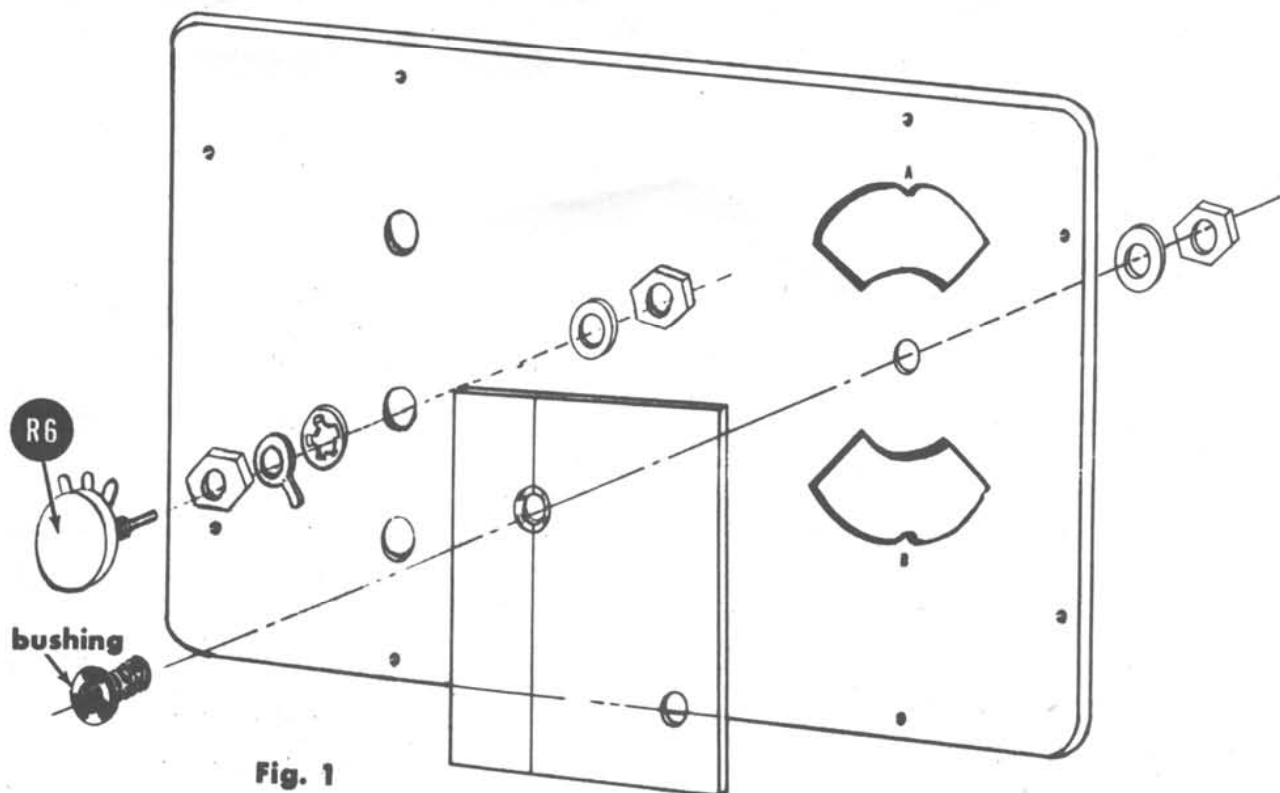

Fig. 1
- () Fig. 1. Mount the plexiglass window to the panel with the bushing, 1-3/8 flat washer, and 1-3/8 hex nut. Note that the hole in the window used for mounting is counterbored to accept the bushing and that the panel lamp hole in the window is at the lower right in the rear view. Note also that there is a scribed hairline on the back surface of the window which passes through the center of the mounting hole. Before tightening the nut, line up the window so that both indicating points A & B on the panel lie directly over the hairline.
- () Fig. 1. Mount the RF FINE potentiometer R6 (200 Ω) to the panel, using 2-3/8 hex nuts, 1-3/8 ground lug, 1-3/8 lock washer, and 1-3/8 panel washer.